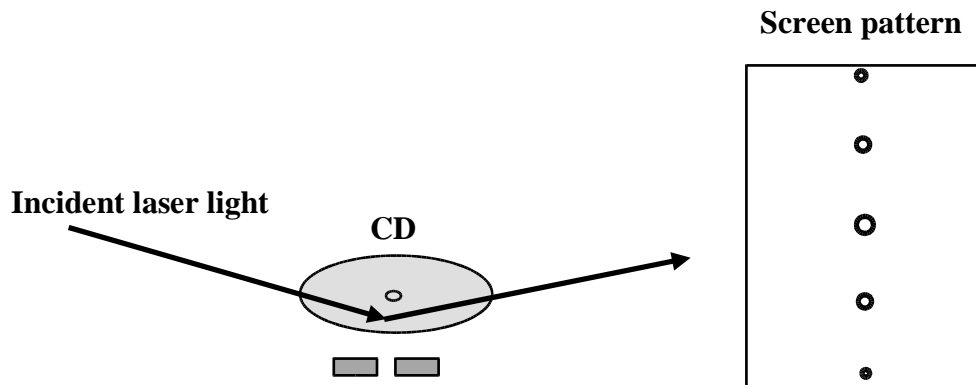

Figure 3
9. Now position the CD so that the laser light strikes the CD near an edge, at a point halfway between the laser head and the graph paper. Call this arrangement "setup 2" and refer to figure 3 below. Observe the pattern of light on the graph paper. You should see well-separated dots of light, with one dot that is much brighter than the others. This is the so-called 0th order maximum. You will notice the 1st order maxima and possibly a 2nd order maxima as well on either side of the central maximum. Measure and record the vertical heights of these maxima above the CD surface.
1. Fill in data tables 1 and 2. Refer to figure 3 to compute the so-called incident angle θ_{inc} and the reflected angle θ_{refl} in data table 1 refer to figure 3. You will need to compute the inverse tangent for a right triangle using your measured distances found in the appropriate table.